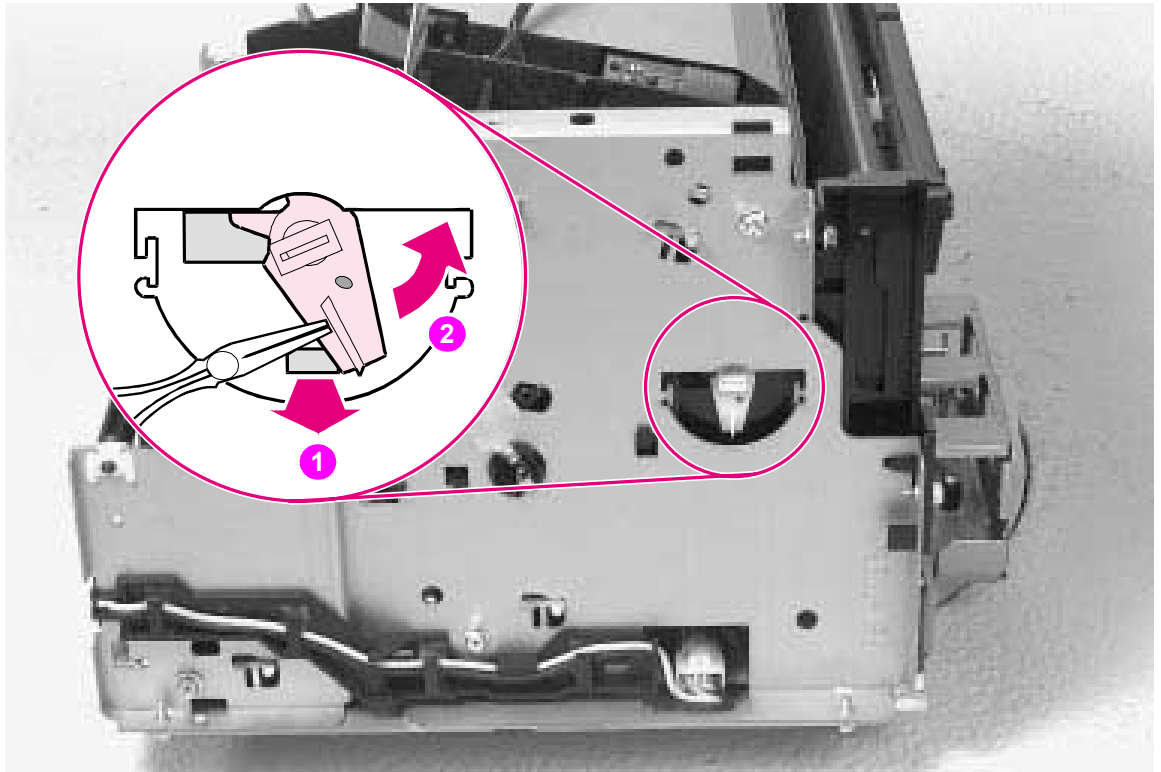

Figure 6-24 Pickup Roller Assembly removal (2 of 2)
- Using needlenose pliers, pull the bottom of the bushing out (Figure 6-24, callout 1), then turn it counter clockwise to release it (Figure 6-24, callout 2).